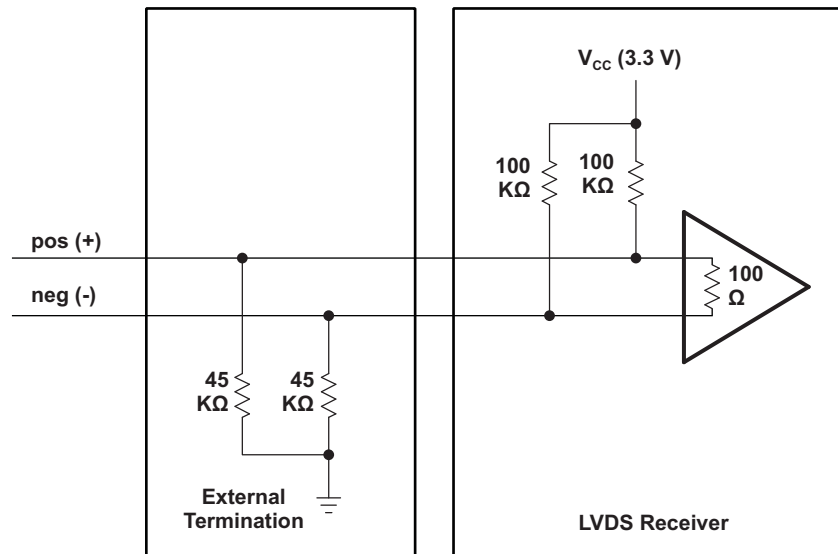

Figure 30. External Terminations: Receiver With 100 Ω
- If the LVDS receiver includes 100 Ω terminations and internal pullup resistors (sometimes used for fail-safe), use the type of termination shown in Figure 30. Adjust the external resistor values based on the V_{CC} and internal resistors to generate a bias voltage of 1.0 V to 1.2 V.